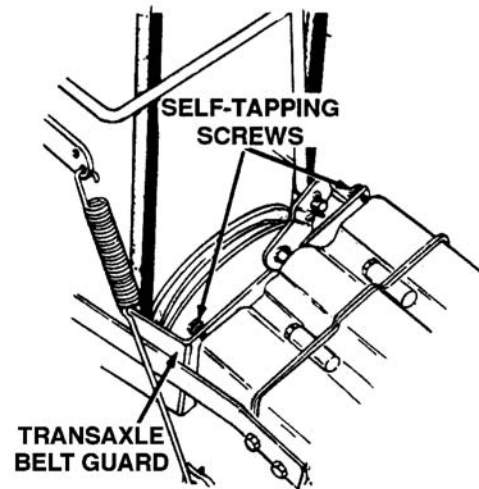

Figure 7-57. Changing Drive Belt
4. Remove the transaxle belt guard by removing the two self-tapping screws. See Figure 7-57.